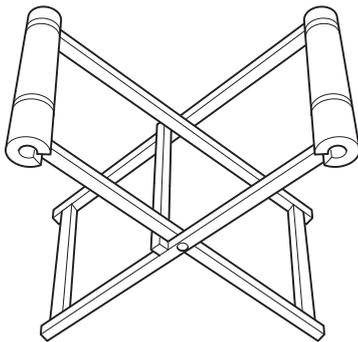

Fig 10. Glass Stand
- 2 After checking for size, remove the new glass and place it on a purpose made glass stand. ⇒ Fig 10. \(□ B-31\).